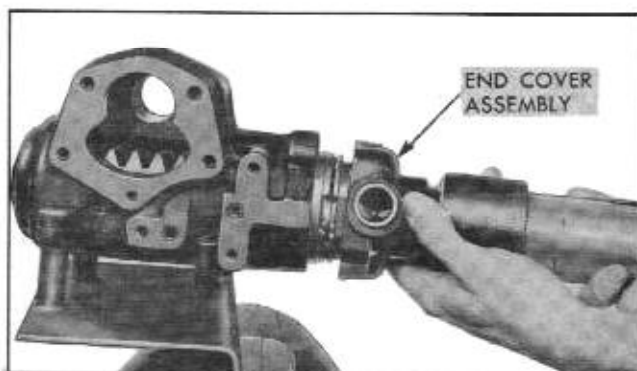

Fig. 9-32 Removing End Cover from Gear Housing
1. Remove end cover retaining screws and pull cover and housing assembly off gear housing (Fig. 9-32).